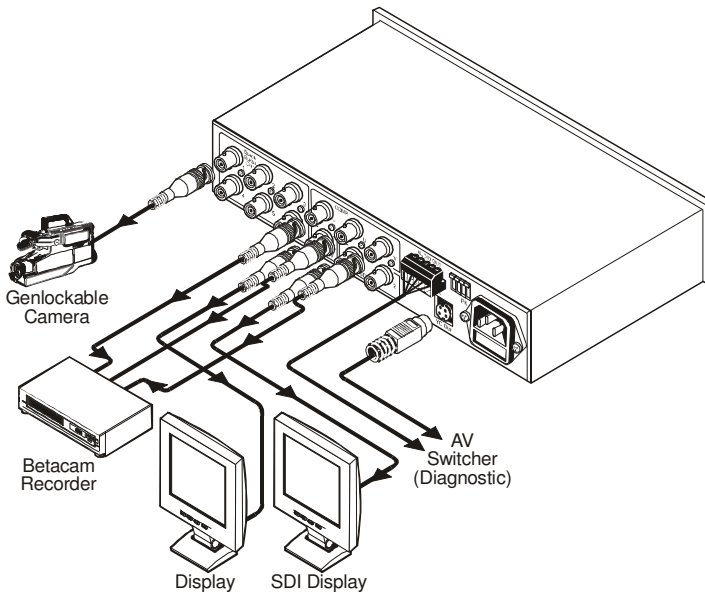

Figure 3: Connecting the 811 Video / Audio Generator
To use your **811 Video / Audio Generator**, connect one or more of the outputs¹, as the example in Figure 3 illustrates:
7. Connect the power cord (not illustrated in Figure 3).